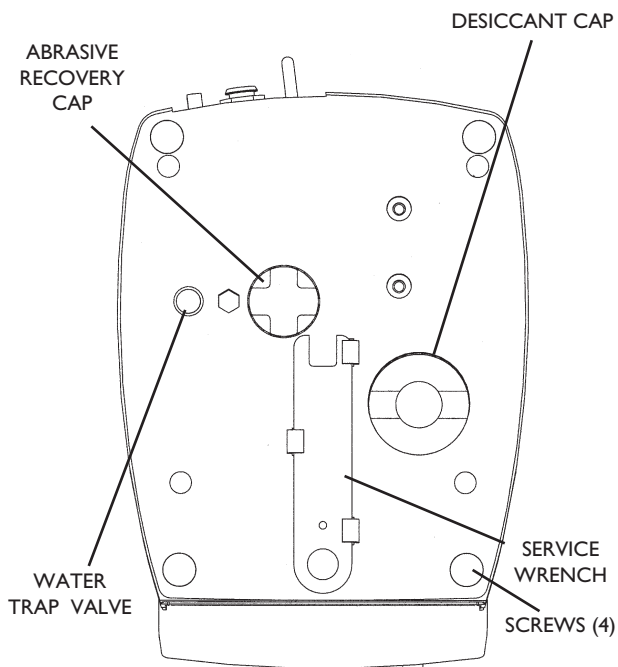
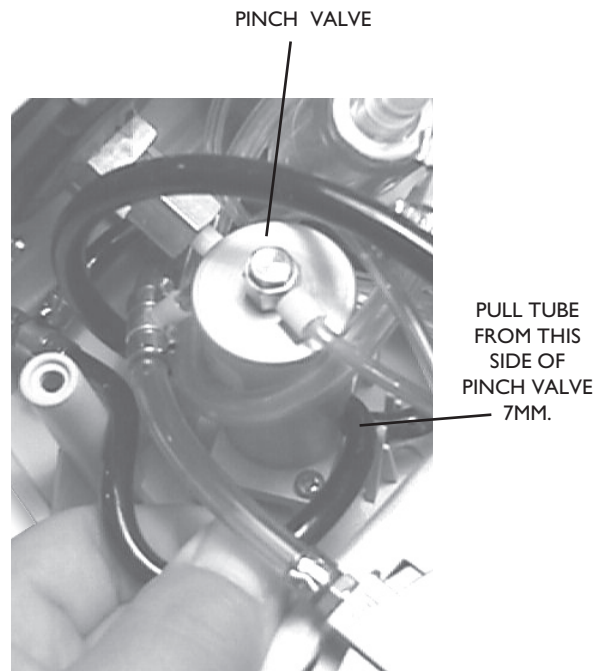

Figure 4.3
Figure 4.4
- A. Desiccant chamber:** Inspect the desiccant granules through the view window located in the bottom of the unit (see Fig. 4.3). The blue indicator granules will turn white when contaminated. Replace with new desiccant if necessary. Use the Service Wrench to unscrew and to replace the cap. Clean 'o' ring and threads before replacing. Do not over tighten.
- C. Waste Powder Chamber:** Unscrew the Abrasive Recovery Cap (see Fig. 4.3) using the Service Wrench. Remove any abrasive from the chamber, clean the threads and replace the cap. Do not over tighten.
- D. Moisture trap:** Very minimal, or no moisture should be found. While the PrepStart is pressurized and held in a horizontal position, depress the trap stem (see Fig. 4.3) with a finger tip: compressed air, and any moisture will be expelled. If more than a few drops of moisture are found, additional water traps and filtration, may be necessary.
3. Remove the four Philips head screws in the underside of the PrepStart (see Fig. 4.3).
5. The pinch valve is an aluminum cylinder near the outlet port (see Fig. 4.4). Two black plastic tubes passing through (see Fig. 4.3) the cylinder are the pinch tubes. The pinch spot is renewed by pulling both tubes with pliers, about 7mm toward the rear of unit.